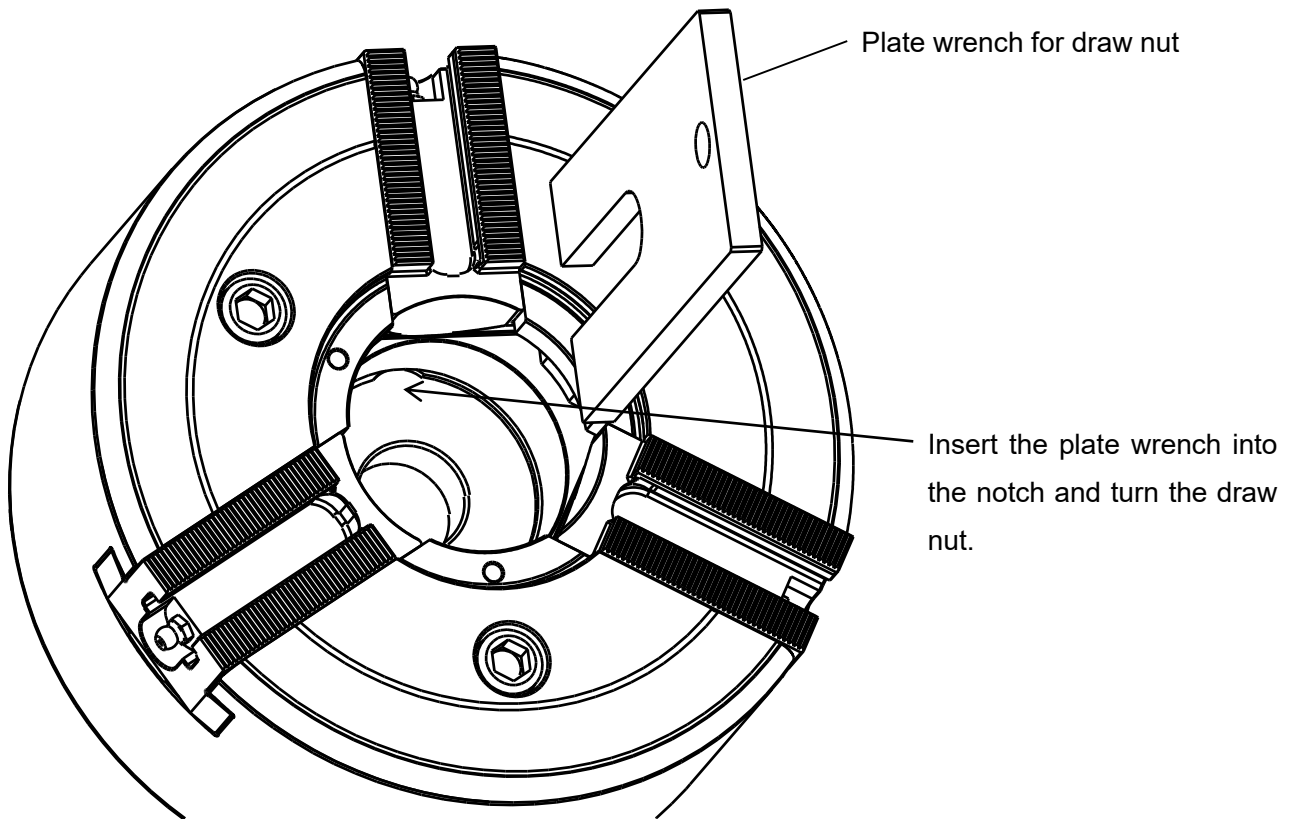

Figure 18
- ③ Install the cylinder on the spindle.
- ④ Check the run-out of the cylinder. If normal, connect the hydraulic hose and the drain hose.
- ⑤ Turn on the machine power, and operate the cylinder several times at 0.5 MPa. If it is normal, move the piston to the forward end and turn off the machine main power.
- ⑥ Remove the soft jaws and cover of the chuck.
- ⑦ Insert the draw nut plate wrench into the chuck center hole as shown in figure 18, and connect the draw nut to the draw pipe while rotating the draw nut. If it cannot be screwed in smoothly, do not screw forcibly and check the thread for inclination.
- ⑧ Rotate the draw nut until the chuck is completely fitted to the spindle installation surface.
- ⑨ Tighten the chuck mounting bolts evenly with the specified torque. (See “2.Important Safety Precautions”) The chuck circumference run-out must be 0.020 mm T.I.R or less. When performing centering adjustment, tap the body side face with a plastic hammer.
- ⑩ Rotate the draw nut until the master jaw base line is aligned with the outer line of the stroke mark. (Refer to page 21.)